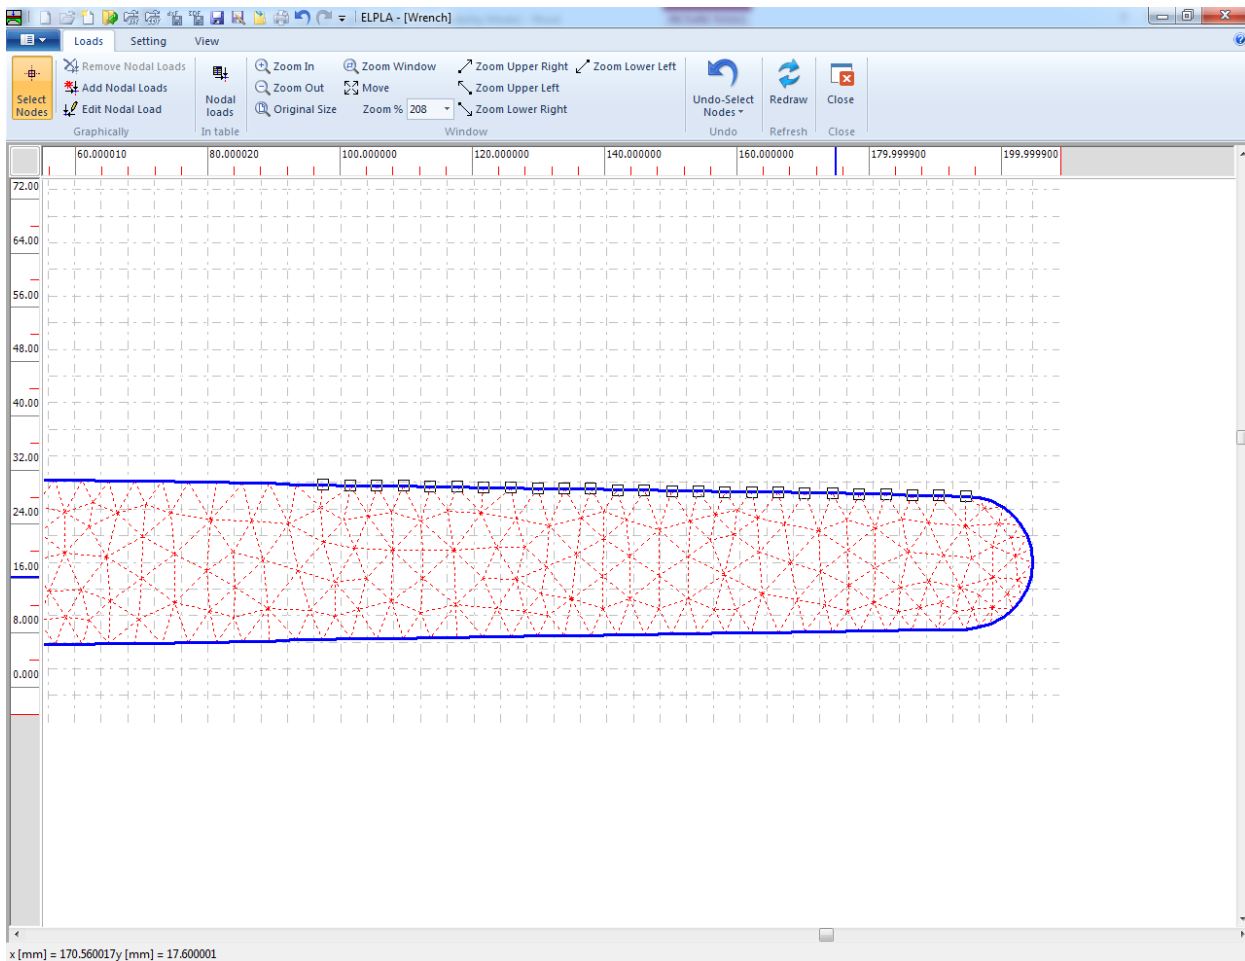
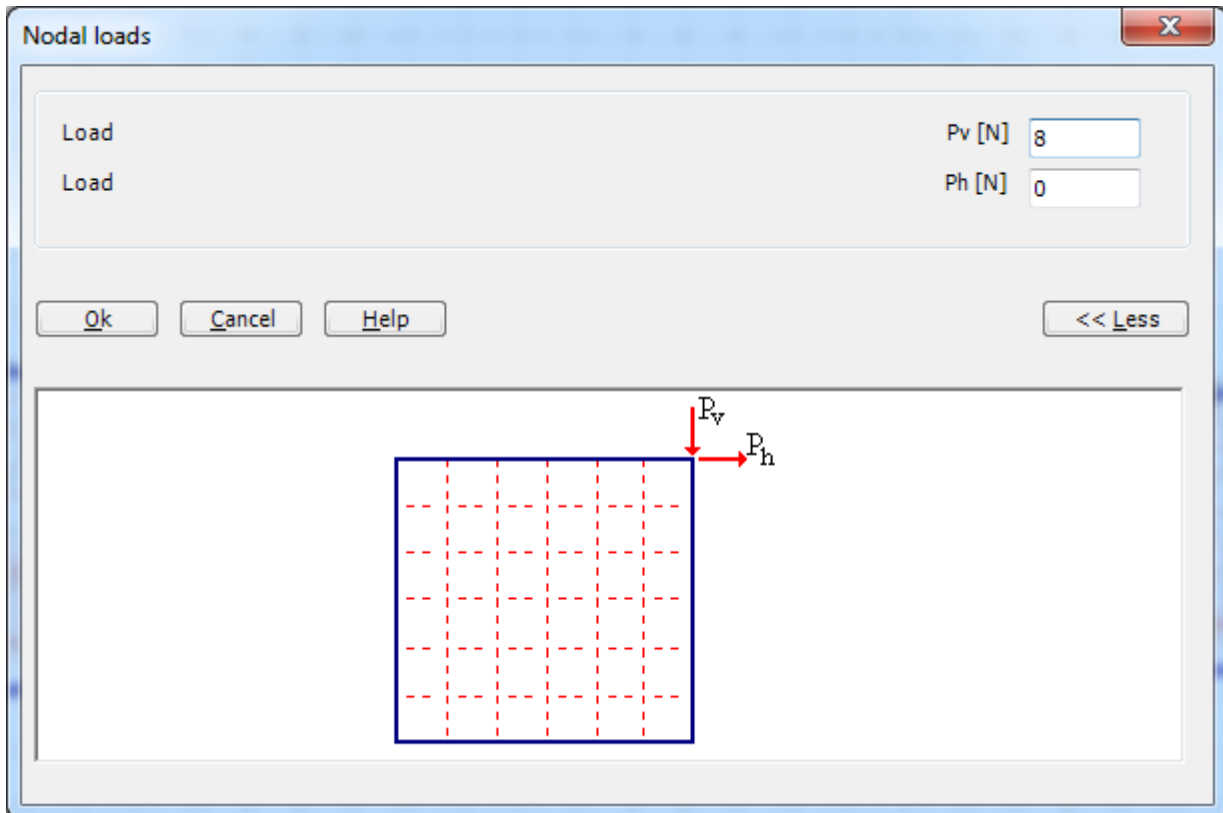

Figure 5.26 Select load nodes
Figure 5.27 "Nodal loads" dialog box
- Choose the "Zoom window" command from the "Loads" Tab to zoom the wrench end as shown in Figure 5.26
- Click the left mouse button on nodes that would have loads. Since the total force is 200 [N] over a length of 100 [mm] and the nodes are generated at about [4] mm spacing, choose 25 nodes from the wrench end as shown in Figure 5.26
- After selecting nodes of loads, choose "Add Nodal Loads" command from "Graphically" menu in Figure 5.26. "Nodal Loads" dialog box in Figure 5.27 appears